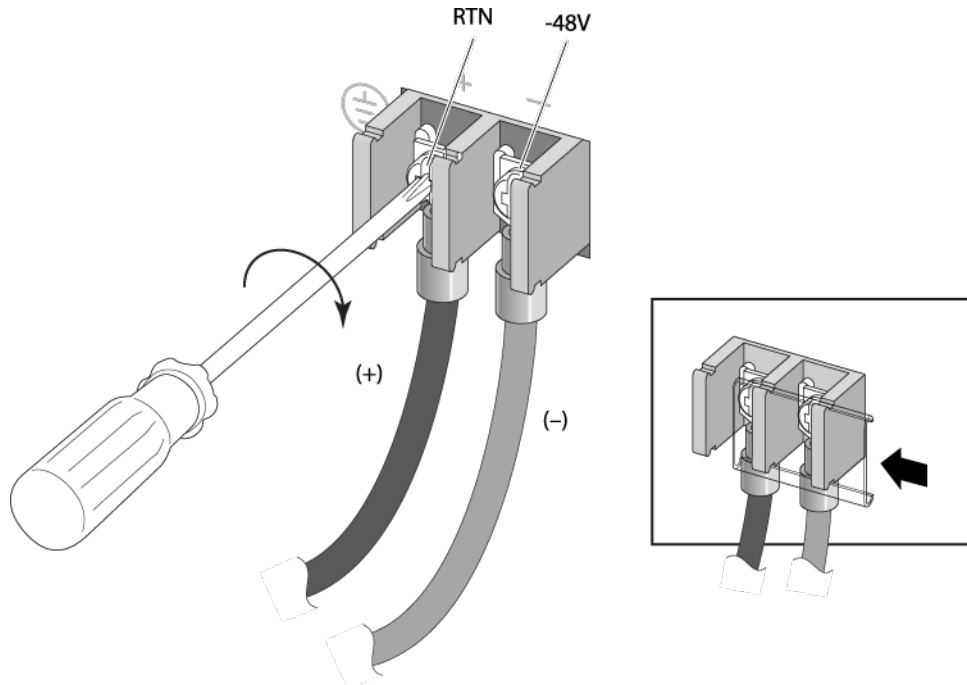

Figure 227: Connecting the DC Power Cables: Part 2
- d Tighten both screws on the terminal block to 15.9 in-lb (1.8 N-m) as shown in Figure 227.